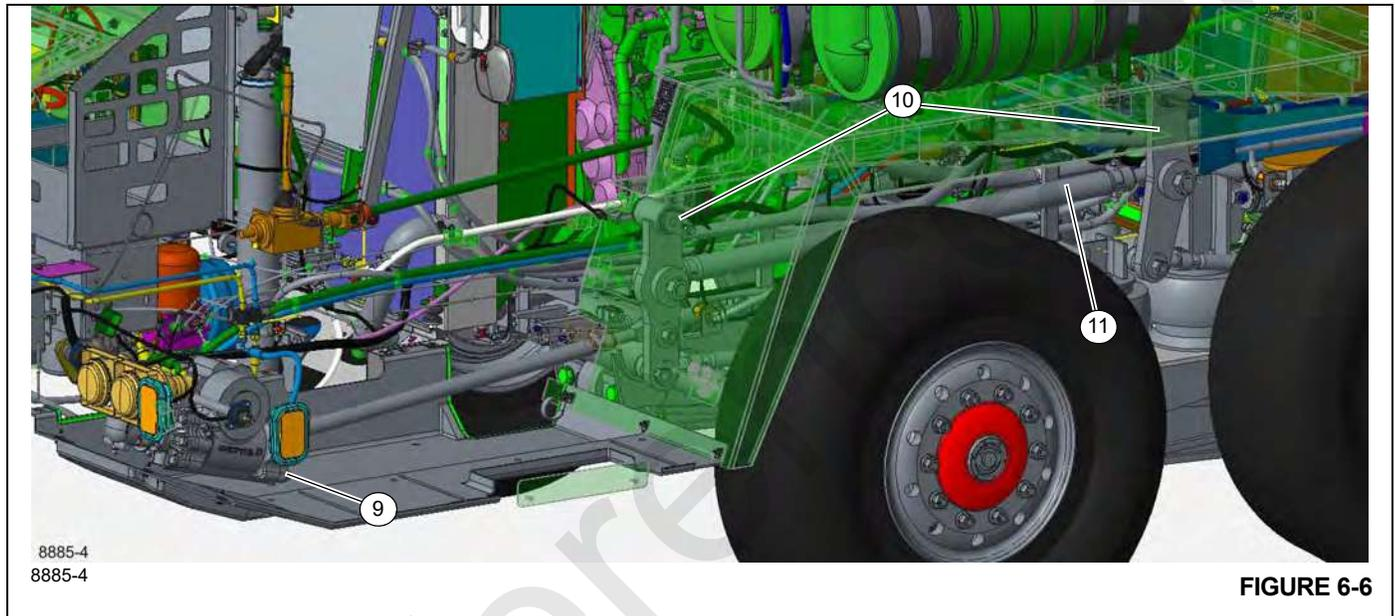

FIGURE 6-3
3. Press the manual up-shift button (1) until the gear display shows "3" (2), (Figure 6-3).